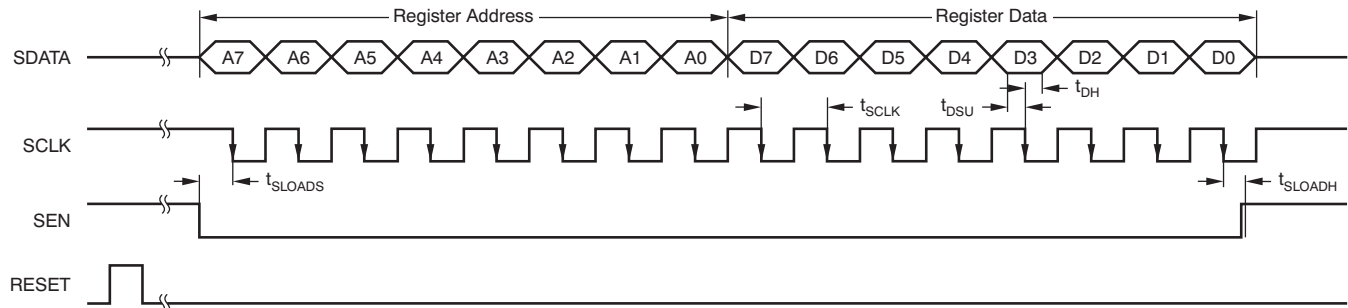

Figure 12. Serial Interface Timing
1. Either through hardware reset by applying a high pulse on RESET pin (of width greater than 10ns), as shown in Figure 12; or